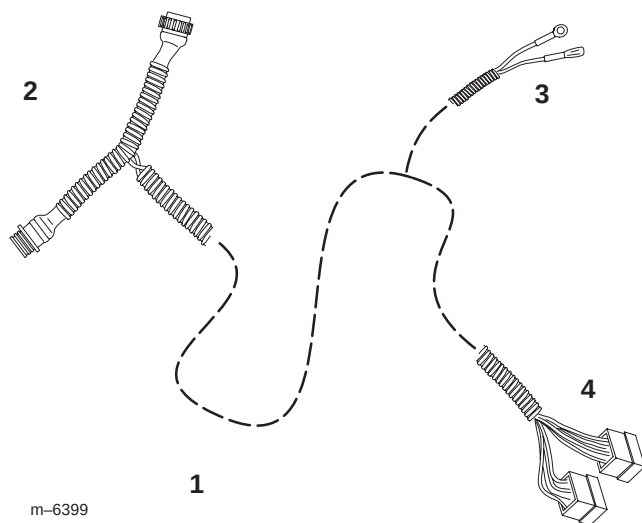

Figure 21
10. Connect the middle lead with the spade connector to the open lead on the fuse box under the driver's seat (Fig. 21 and 24).